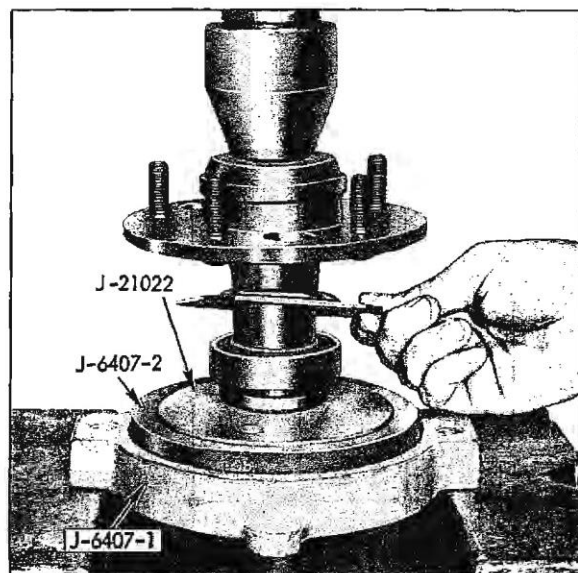

Fig. 4-13 Installing Inner Retainer
3. Press new inner retainer ring against bearing using installer J-21022 (Fig. 4-13).